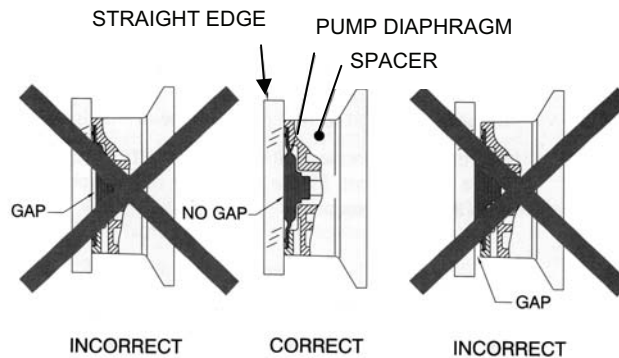

Figure 10. Pump Diaphragm Positioning.
2. Inspect the condition of the pump diaphragm before installing the new pump head assembly. Make sure the pump diaphragm is properly positioned with the spacer as shown in Figure 10. If the diaphragm is damaged or improperly positioned, replace or reposition the diaphragm. Refer to the **Chemical Injection Pump Repair / Pump Diaphragm** procedure that follows this procedure.